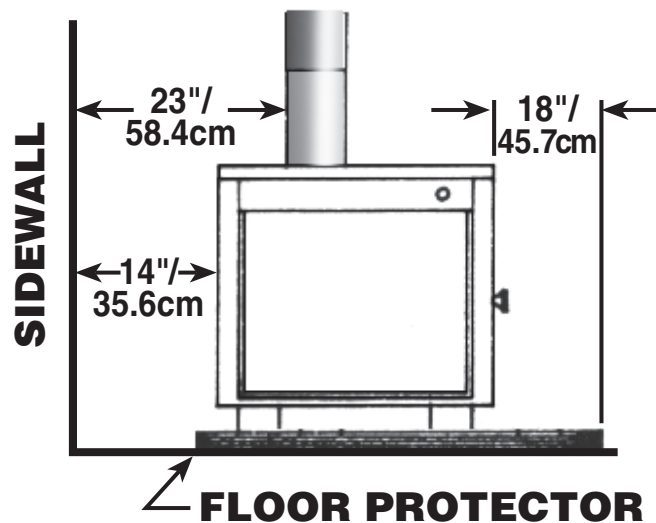

*Fig. 3 – Minimum Clearance Dimensions from Combustible Surfaces for USA & CANADA*
1. The stove must be placed on solid concrete, solid masonry, or when installed on a combustible floor, a solid-surface, non-combustible floor protection must be placed beneath the unit and extend 8"/203mm beyond the sides, 16"/406mm to back-side, and 18"/457mm beyond the front of the fueling and ash removal doors. The floor area beneath stove and extending 8"/203mm beyond each side of the flue elbow and chimney connector **must** be covered with a solid-surface non-combustible insulated floor protector. All manufactured floor protection must be listed to UL 1618 Type 2 and have an **R-value of 2.7**, or equivalent. Floor protection must have a **minimum thickness of 1"/254mm**. Minimum floor protector dimensions must be 43" x 60"/109.2cm x 152.4cm. (NOTE: To calculate R-values of equivalent alternative materials, see page 20). Please reference figures 3–5 and consult and follow local building codes and fire protection ordinances.
3. After observing the clearances to combustible materials (figures 3–5), locate your floor protector accordingly (figure 3) and carefully place the stove in your selected location. Install stove pipe, elbows, and thimble as required, utilizing either a recently cleaned and inspected 6"/152mm masonry chimney or a 6"/152mm i.d. listed chimney.
4. Use 6"/152mm diameter minimum 24 MSG Black or 26 MSG Blue round stove pipe. **DO NOT USE GALVANIZED stove pipe.** Secure pipe sections with three (3) sheet metal screws in each stove pipe
5. Recheck clearances from the stove, connector stove pipe, and corner clearances using the illustrations in figures 3–5 and your local building codes or fire protection ordinances.